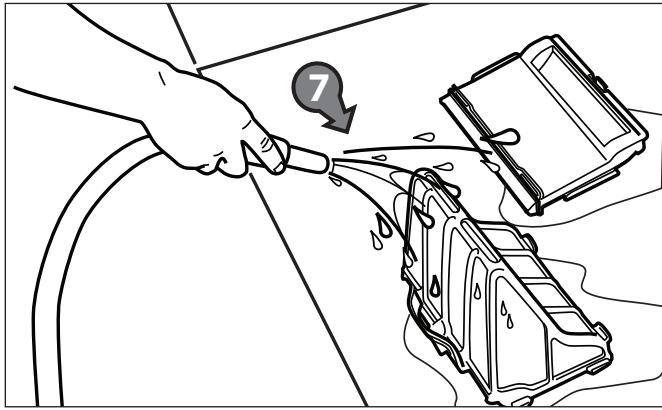

Figure 28. Wash Filter Canister
9. Empty all debris from the filter canister, then rinse the canister, the filter support, and the cleaner under water or using a hose, as shown in Figure 28.